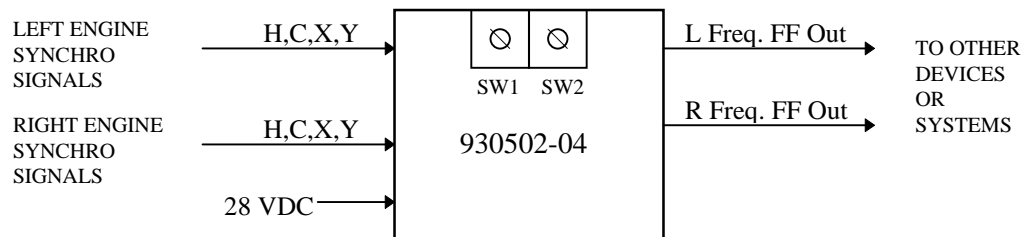

FIGURE 1 - FUNCTIONAL BLOCK DIAGRAM
- 1.3 Figure 1 is a functional block diagram of the Synchro To Frequency Fuel Flow Converter. The synchro data entering the right side of the block diagram is converted from synchro data to a pulsating signal capable of sinking current only, and requiring a pull-up resistor. The output frequency is based on the input synchro value and the selection of SW1.